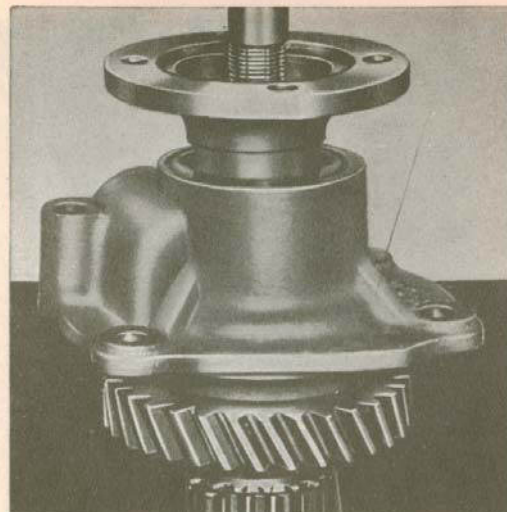

Fig. 3-20. Disassembling mainshaft, I
Unscrew the nut for the coupling. Use tool SVO 2409 as a counterhold on the coupling. Move the engaging sleeve (41) for 1st and 2nd speeds forwards. Place the shaft in a press and support under 1st speed gear wheel (10). Press out the shaft with a drift, Fig. 3-20.